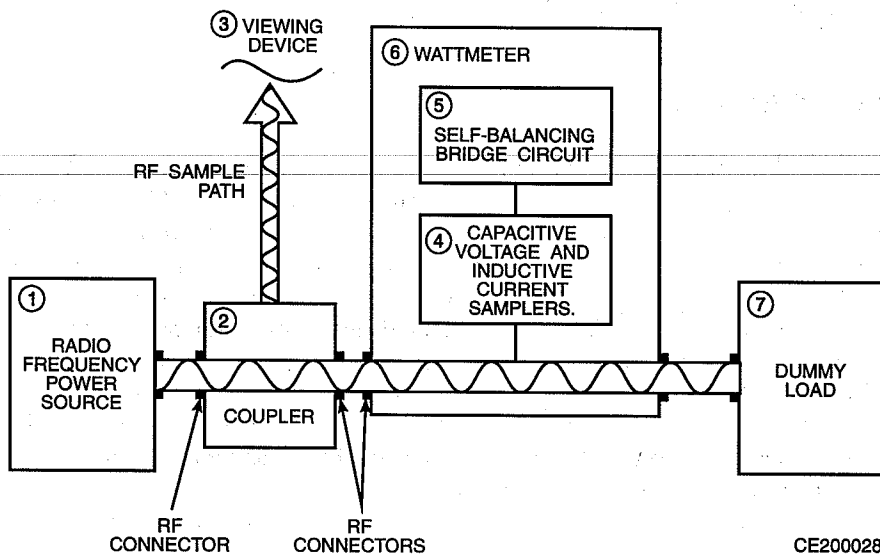

Figure 5-1. RF Test Set Functional Block Diagram
A functional block diagram of the RF test set is shown in Figure 5-1. There are four basic paths of signal flow. The first is the RF source (1) to dummy load (7) path which is the RF power to be measured. The second is the RF sample path which uses the coupler (2) to produce a sample of the RF power to a viewing device (3). The third path contains the capacitive voltage and inductive current samplers (4) which produces a voltage induced from the RF power. The fourth is a self-balancing bridge circuit (5) that measures voltage generated by the coupler and produces the readable output.